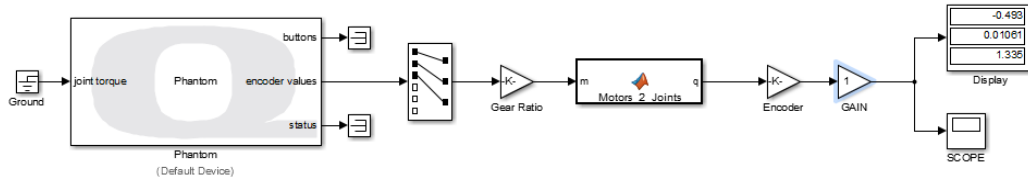

Figure 7: Updated diagram after aligning the joint directions.
- Insert a **Gain** block between the **Encoder** block and the **Scope**. Enter the three (+/-) gains you found in Question 3 as a vector. The joint angle calculation should look like what you see in Figure 7.